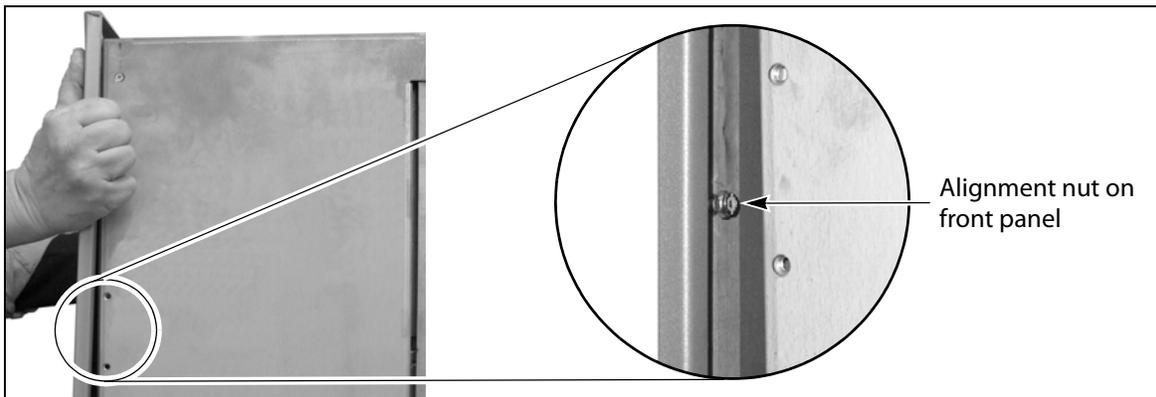

Figure 10 Install the front panel on the chassis.
- c.** While holding the front panel display cable in the cut-out, position the LCD panel assembly so that the holes in the bottom of the LCD panel frame fit over the threaded studs extending from the front of the chassis (see Figure 10 on page 17).